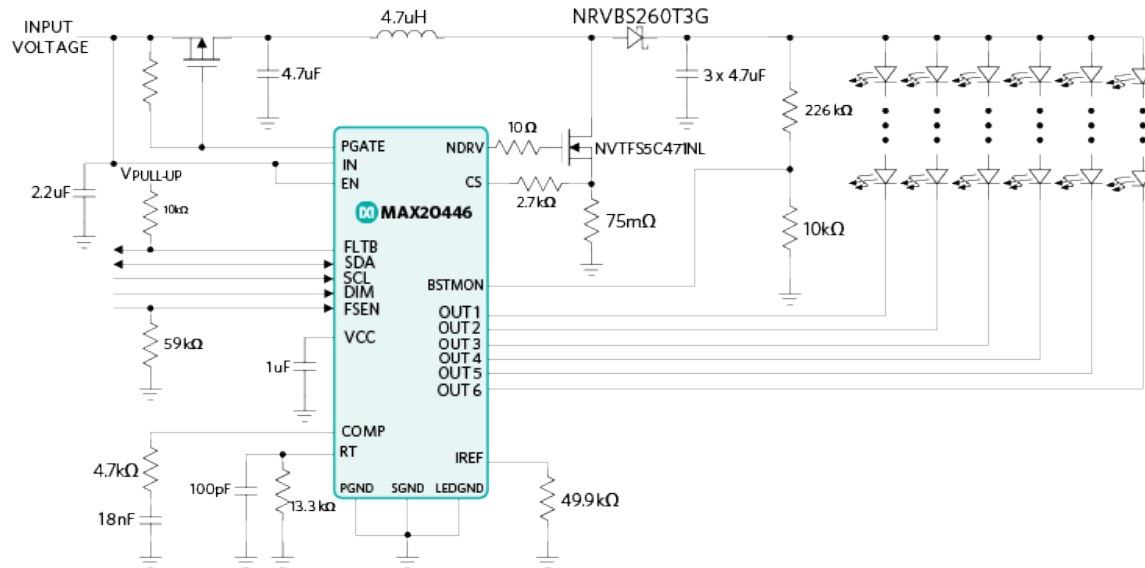

Figure 6. Typical MAX20446 operating circuit based on example calculations (optional P-MOS and relevant bias resistor not included).
**Figure 6** shows the complete boost LED driver schematic with the selected component values from the design example. The step-by-step design process outlined in this application note can be used as a reference during the debug and test phase.